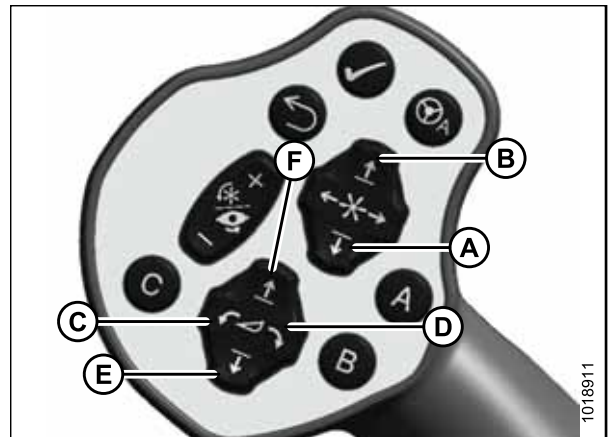

Figure 4.112: GSL
- Lower center-link (A) onto the header with REEL DOWN switch on GSL until it locks into position (hook release [C] is down). Refer to Figure 4.112, page 93 for GSL controls.
- Check that the center-link is locked onto header by pressing the REEL UP switch on the GSL. Refer to Figure 4.112, page 93 for GSL controls.